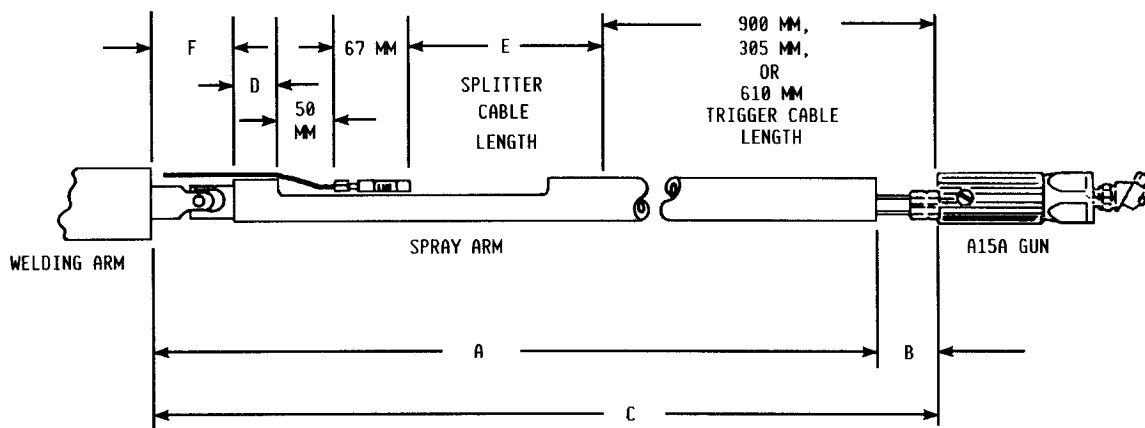

Figure 13 — Determining Splitter Cable Length
- a. Determine required length of Splitter Cable, using information in Figure 13. Select appropriate Splitter Cable from chart in System Options section of this manual.
(Refer to Figure 13)